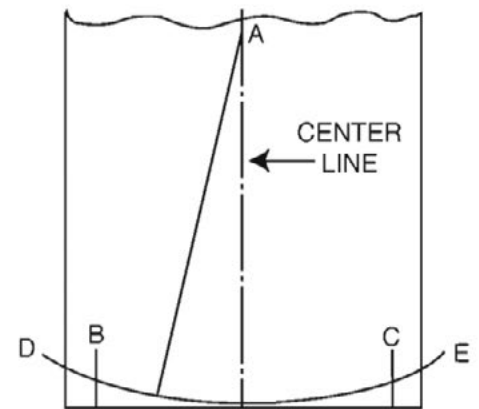

Fig.3
2. At a distance from the belt end equal to about 3x the belt width, drive an awl or small nail into the belt on the center line (Point A, Fig. 3)